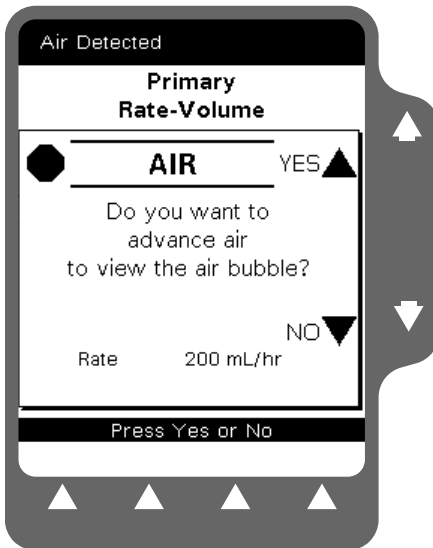

Figure 6-5 Advance Air Pop-Up
1. When an air alarm occurs, the Advance Air pop-up window is displayed (Figure 6-5). Press the \uparrow key next to the YES label for pump-assisted viewing of the detected air.